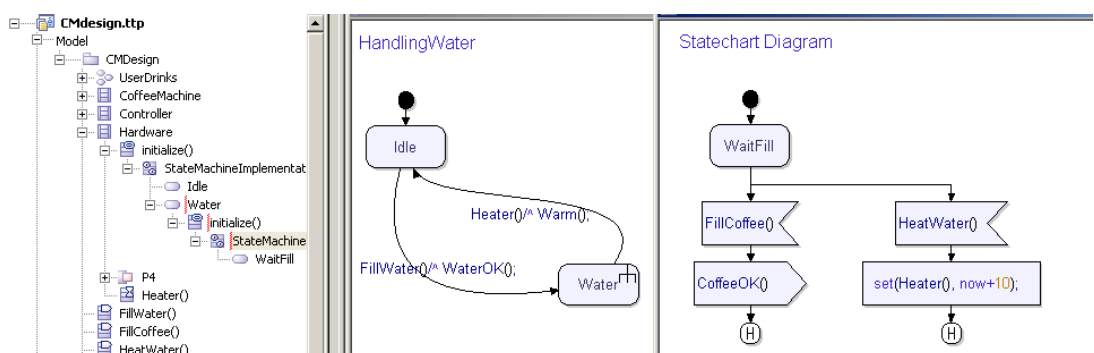

Figure 22: Timer declaration and use
3. Go to the state diagram for composite state **Water**. Add the signal **HeatWater** in parallel to the signal receipt of **FillCoffee**. This transition should contain the **set** statement of timer **Heater**, `“set (Heater () , now+10) ;”`. See Figure 22 on page 45.